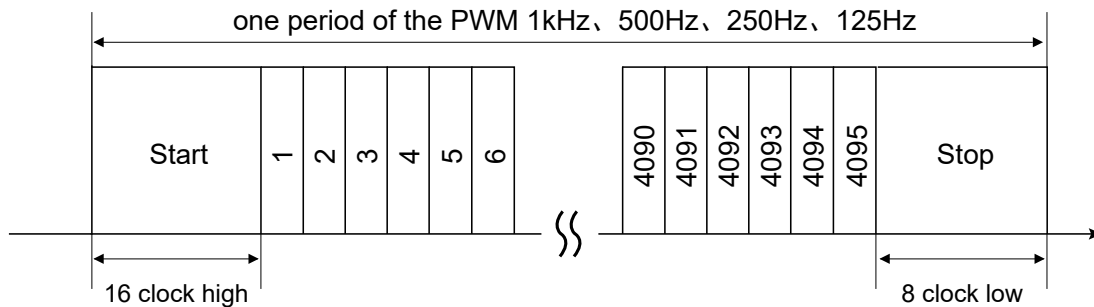

Figure 6. PWM output signal
TMR3111 supports pulse width modulation (PWM) output. The duty cycle of PWM is a logic signal proportional to the magnetic field angle. The duty cycle is limited by the minimum value (1/4096 of the period) and the maximum value (4095/4096 of the period), so the duty cycle varies from 1/4096 to 4095/4096 with the resolution of 12-bits, Figure 6 shows one period of the PWM signal, and the period (T) is 1/FPWM.